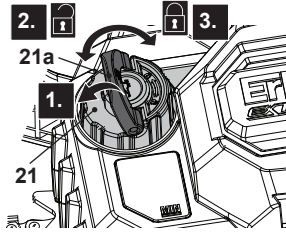

Fig. 9
1. Place the product on a stable, level surface with the oil tank cap (21) facing upward. We recommend laying a non-flammable sheet under the product.
2. Lift the locking ring (21a) and hold it, then unscrew it anticlockwise and remove the oil tank cap (21) (Fig. 9, steps 1, 2).
5. Check the oil level window (20) prior to start-up and regularly during operation. Refill oil when the oil level is close to the bottom of the oil level window (20).
6. Wipe up spilled lubricant with a soft cloth and refit the oil tank cap (21) (Fig. 9, step 3).